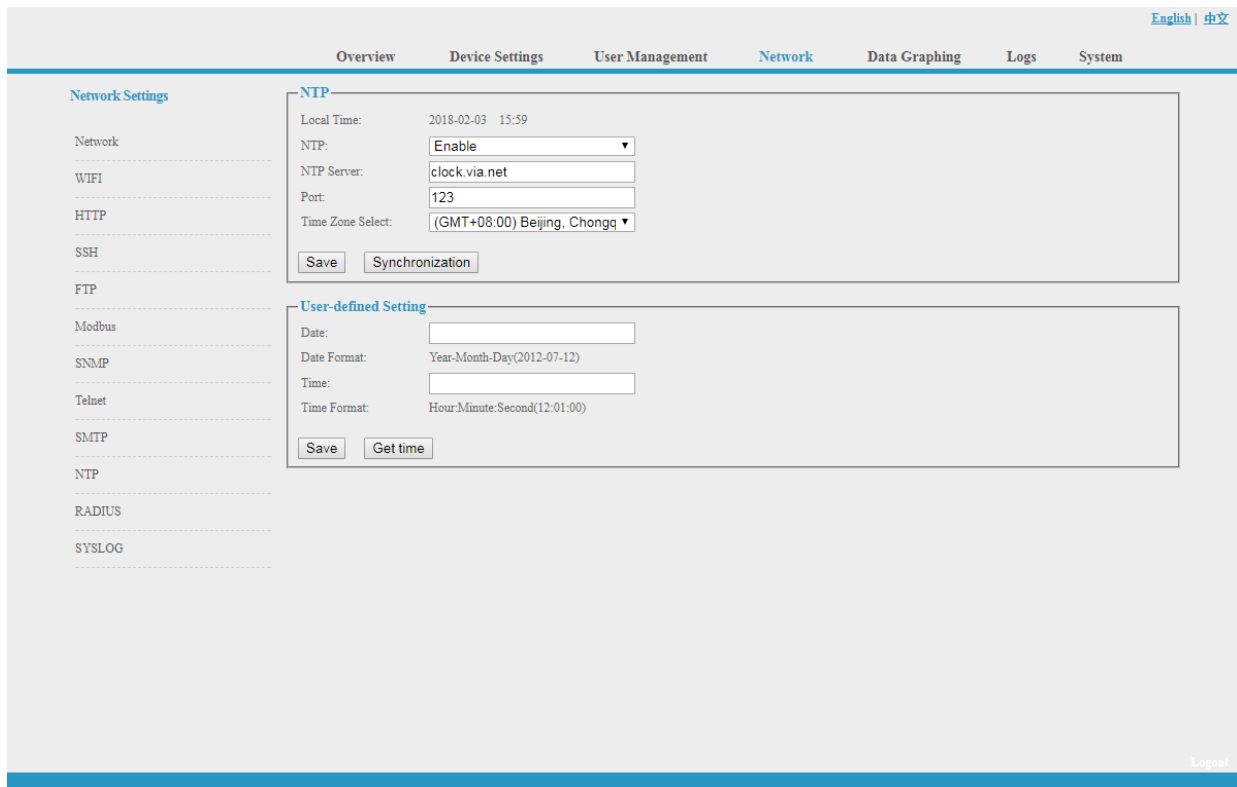

Figure 1-14
J. NTP Settings: Click NTP as shown figure 1-14 from network setting tap